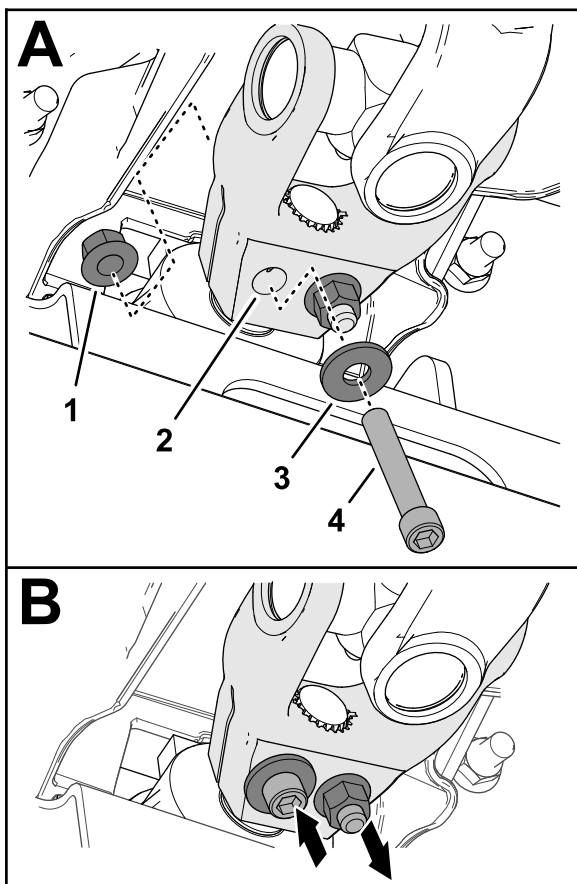

Figure 16
6. Assemble a socket-head capscrew (3/8 x 2-1/4 inches) through a washer (3/8 inch) and the hole in the driveshaft yoke (Figure 16), and secure the capscrew with a flange-locknut (3/8 inch).
7. Assemble a socket-head capscrew (3/8 x 2-1/4 inches) through a washer (3/8 inch) and the hole in the driveshaft yoke from the opposite direction (Figure 16), and secure the capscrew with a flange-locknut (3/8 inch).